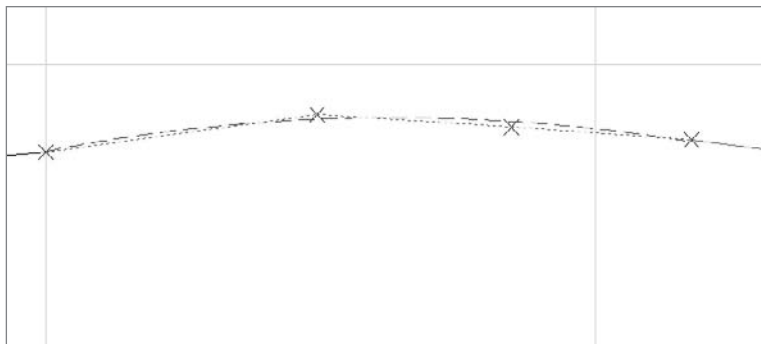

Figure A.3
2. Zoom in on lines drawn in profile, as shown in Figure A.3.
6. At the `Select lines, arcs, polylines or profile objects or [Undo]:` prompt, continue selecting the remaining magenta lines from left to right. As you select the lines, a red, dashed preview parabola will appear, as shown in Figure A.3.